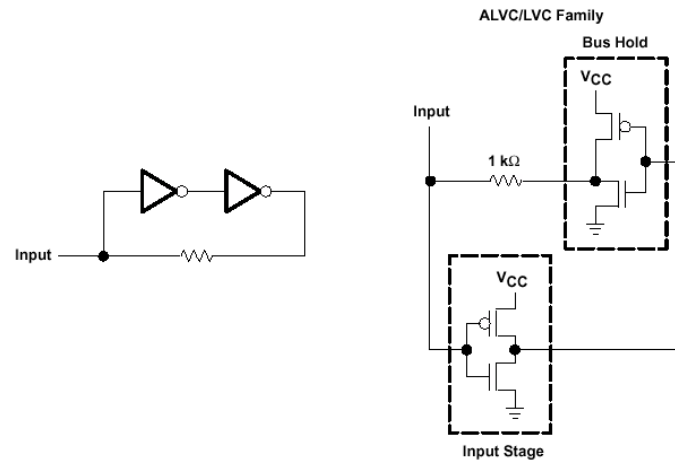

Figure 7.17 Bus Hold Circuit
- Bus-hold circuits consist of two back-to-back inverters with the output fed back to the input through a resistor (see Figure 7.17).